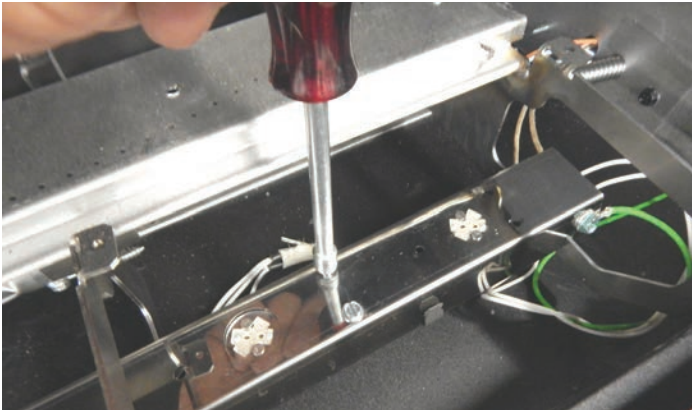

Figure 9
12. Align the Center Light bracket onto the two center burner brackets, then place the Left and Right Light bracket ends on top of the Center Light bracket ends. There are 1/8" X 1/8" notches on the bottom edges of the Light brackets that will nest onto the burner brackets. When installing in the DVLL36BP fireplace, the Left and Right Light brackets will overlap the Center Light bracket approximately 6". When installing in the DVLL48BP fireplace, the Left and Right Light brackets will overlap the Center Light bracket about 1". Secure the Left and Right Light brackets to the Center Light bracket with (4) #8 X 1/4" Screws as shown in **Figure 9.**